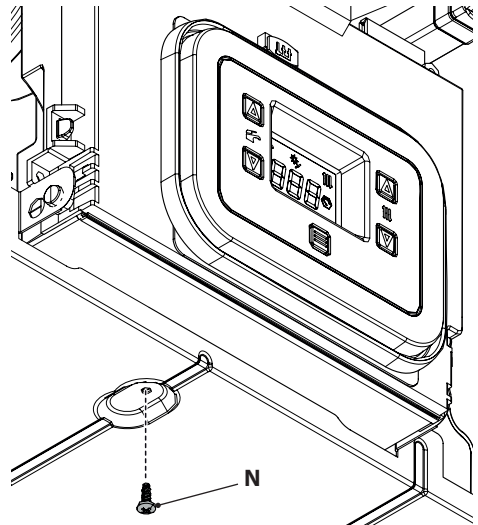

Figure 5.19
- Unscrew the screw **N** (Figure 5.19).